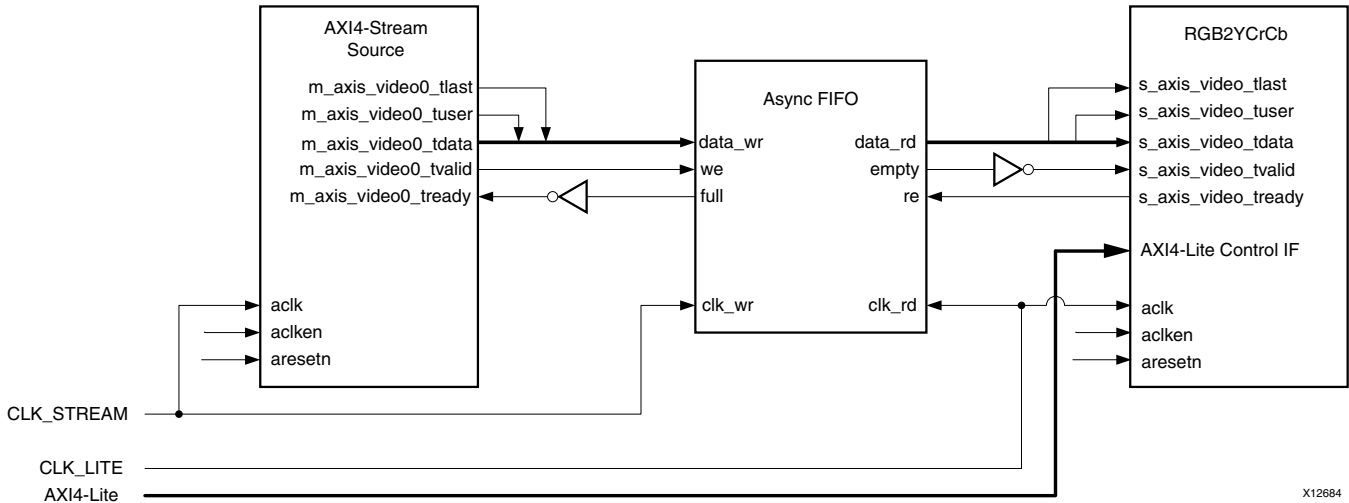

Figure 4-7: RGB2YCrCb CORE Top-Level Signaling Interface
- ($F_{CLK_STREAM} < F_{CLK_LITE}$) then clock-domain crossing logic needs to be inserted before the AXI4-Stream interface, and the RGB2YCrCb core needs to be clocked at the AXI4-Lite clock via the `ACLK` pin, as shown in Figure 4-7. Alternatively, if F_{CLK_LITE} greater than of the F_{MAX} of the RGB2YCrCb core, clock domain crossing logic can be inserted in front of the AXI4-Lite Control interface.
In either case, Xilinx System Integrator tools, such as EDK, can automatically infer clock-domain crossing logic using the AXI interconnect core, when the tool detects that the master / slave side of AXI4 interfaces operate on different CLK rates. For manual instantiation of clock-domain crossing logic, HDL users can take advantage of the FIFO Generator IP core, as shown in Figure 4-7.